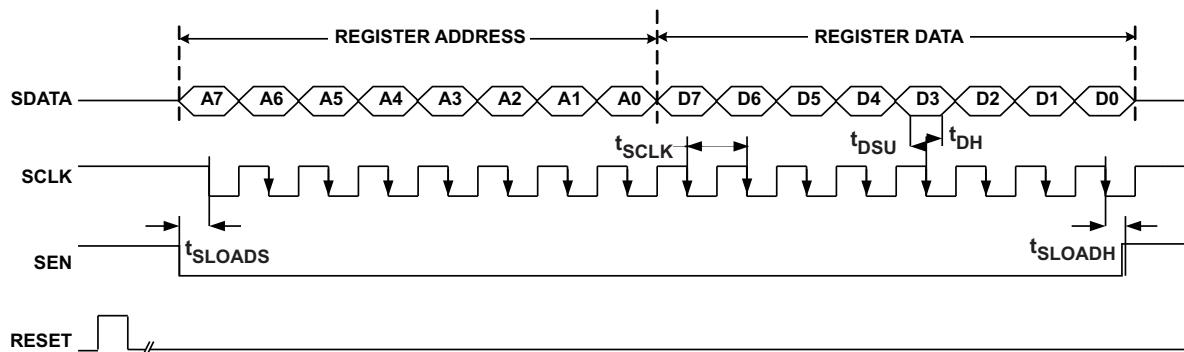

Figure 7. Serial Interface Timing
1. Either through hardware reset by applying a high-going pulse on RESET pin (of width greater than 10 ns) as shown in Figure 7 OR